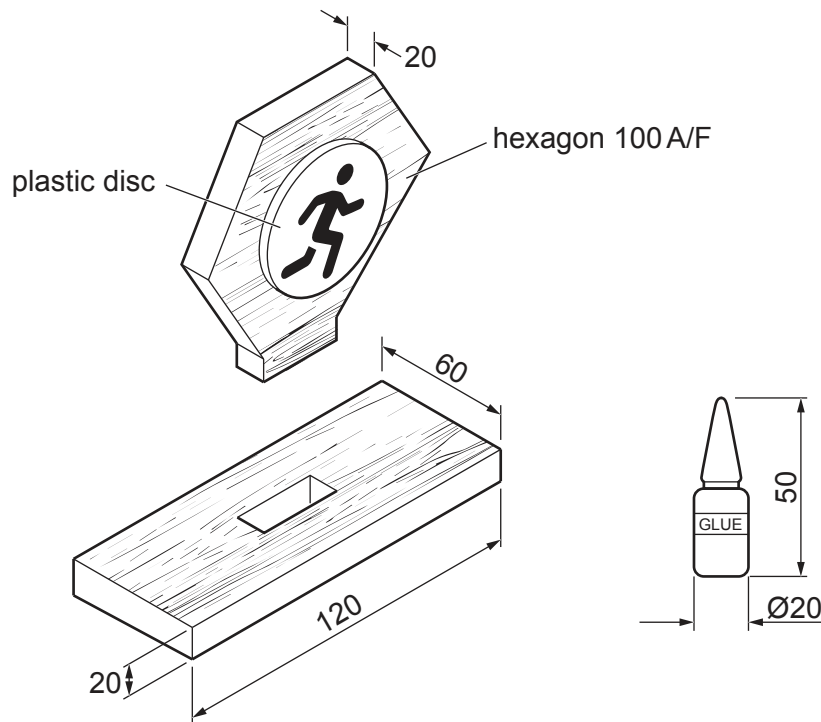

Fig. 8.1
- 8 Fig. 8.1 shows the parts of a self-assembly trophy kit. The $\text{Ø}60\text{ mm} \times 5\text{ mm}$ plastic disc has an athletics logo printed on one side and a swimming logo on the other side.